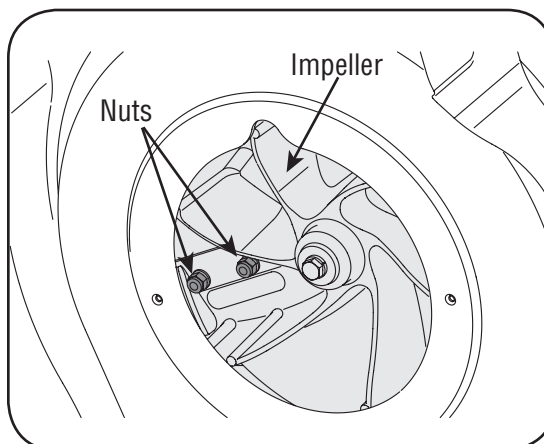

Figure 5-8
10. The nuts on the flat head cap screws can be reached from underneath using a 1/2-inch socket, universal, and extension. See Figure 5-8.